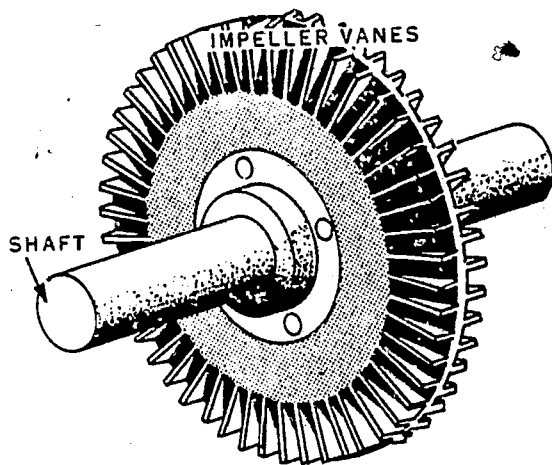

Figure 12. An impeller.
8. The impeller, illustrated in figure 12, consists of a number of small vanes mounted around a hub. The vanes act as pockets with